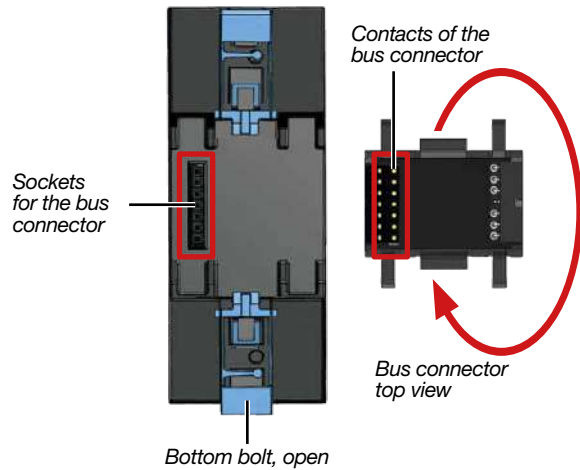

Fig. 1 - Bus connector installation: Rear of meter and front of bus connector
1. Check the installation of the bus connector (included in delivery, pre-assembled) on the back of your device. If not already done, plug the contacts of the bus connector (JanBus interface) into the sockets on the back of the meter (see Figures 1 - 3 on the right).